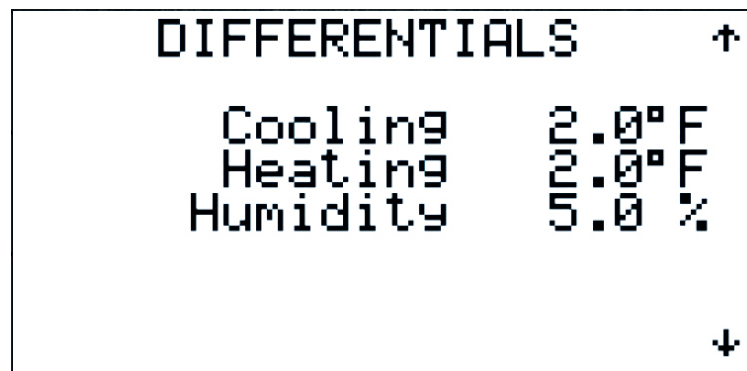

Figure 54
2.3.3.2.1 Tuning - Differentials (Figure 54)
Pressing the **DOWN** key will now display the DIFFERENTIALS screen, shown in Figure 54. This screen shows the Cooling, Heating and Humidity Switch Differentials. This differential is the range between the making and breaking of the switch. The range of the Cooling and Heating Differential is 0.0° F to 9.9° F. The range of the Humidity Differential is 0.0% to 9.9%.